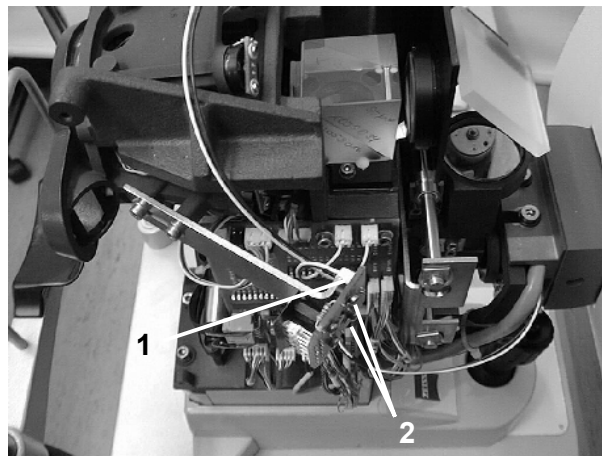

Fig. 15
- Disconnect plug-in connection ((1) Fig. 15).
- Remove screws ((2) Fig. 15) and then the slit projector.
- Insert the slit projector and slightly tighten screws ((2) Fig. 15).
- Re-establish plug-in connection ((1) Fig. 15).
- Move and turn the slit projector in such a way, that the slit image is positioned symmetrically and parallel to the vertical line of the crosshairs on the display. Adjust also for minimum slit image with Tighten screws ((2) Fig. 15). The slit image must now also be sharply defined.